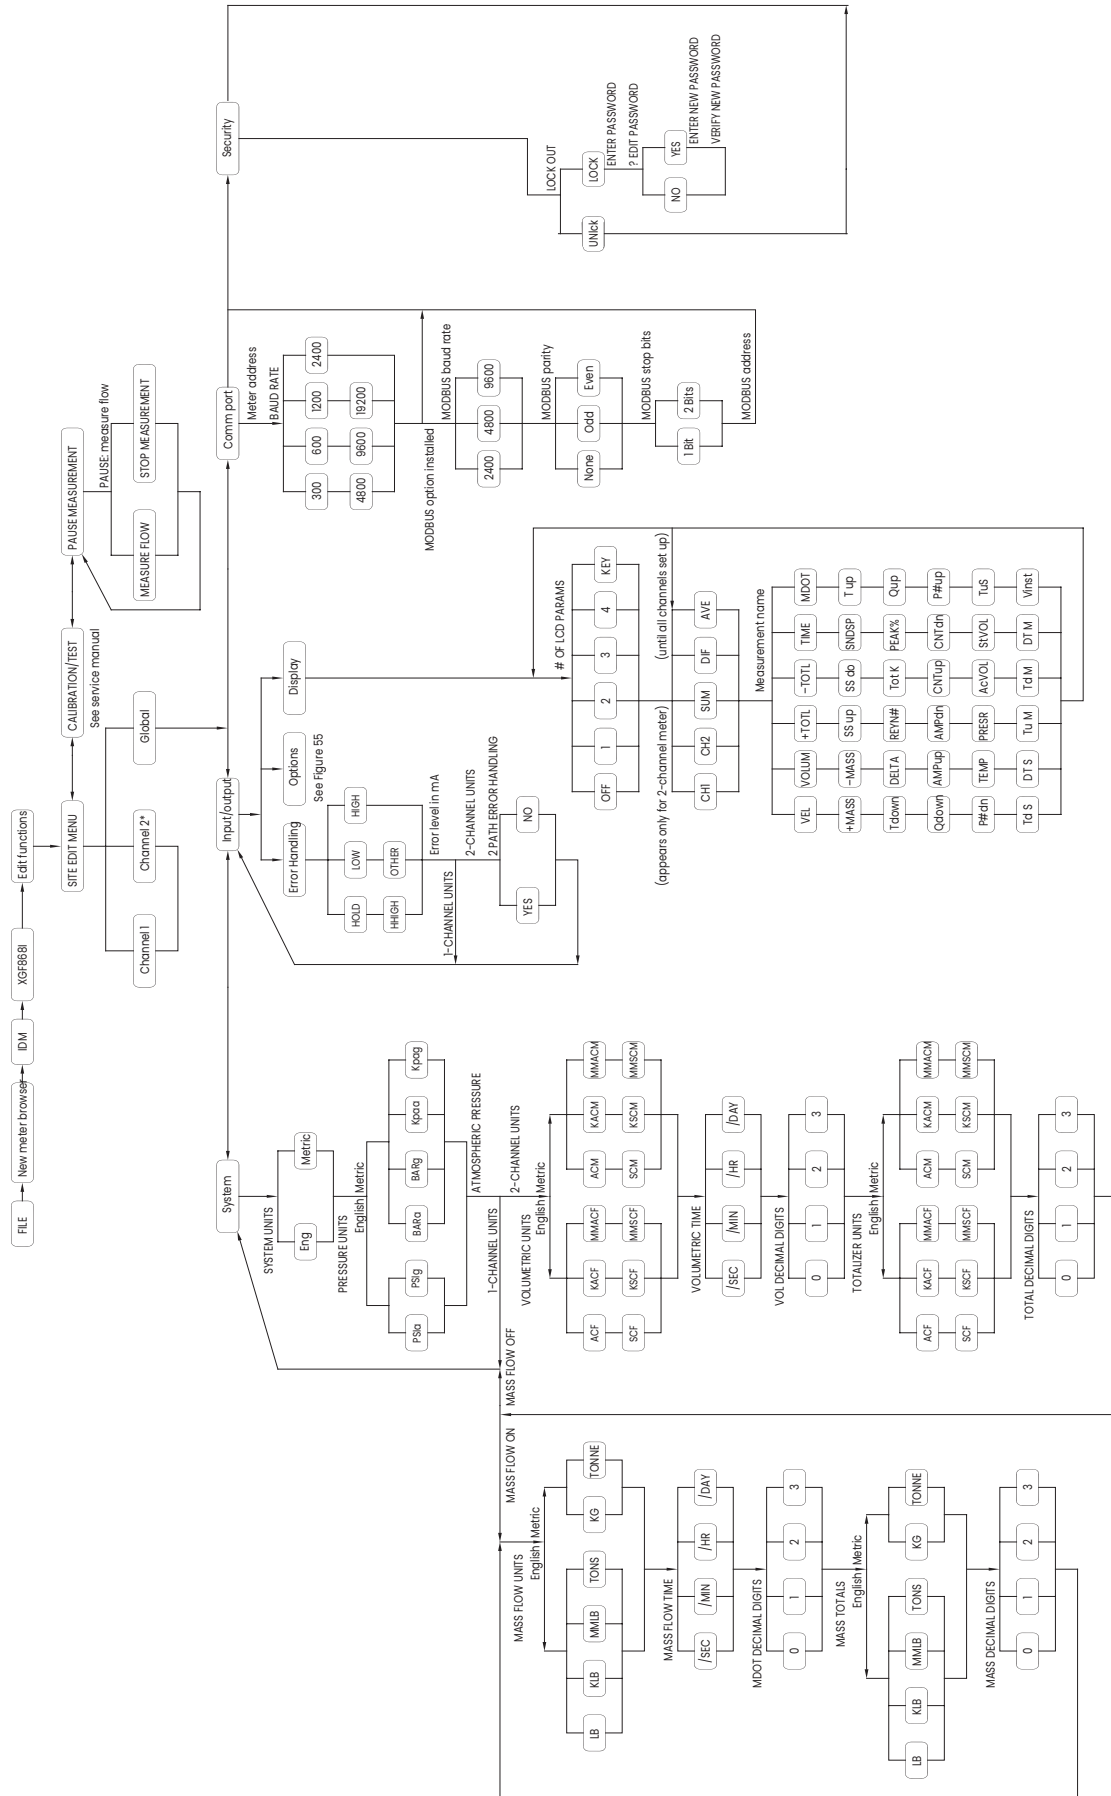

Figure 57: PanaView PROG > GLOBL > SYSTM, I/O and COMM menus
While completing these instructions, refer to the menu map in *Figure 57 on page 82*.
- *Figure 57 on page 82, "PanaView prog > GLOBL > SYSTM, I/O & COMM menus*